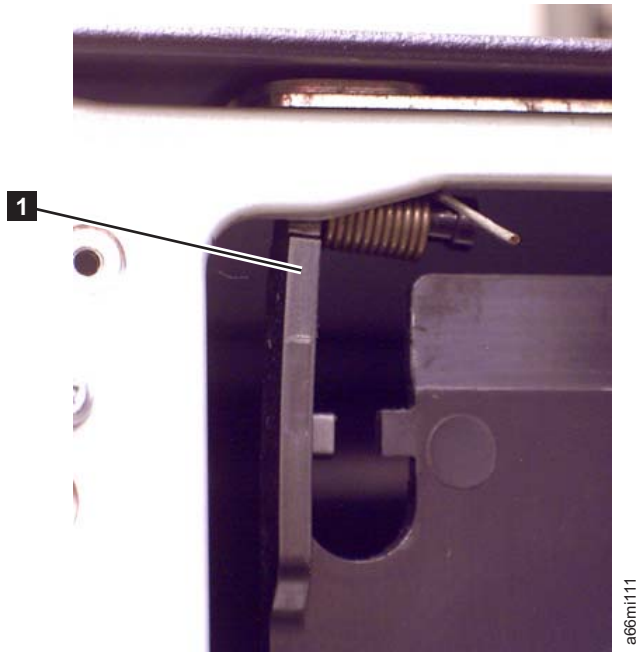

Figure 8-27. I/O Safety Flap Pivot Pin, Removed
4. Move the flap to the right to remove the pivot pin (**1** in Figure 8-27) from the pivot hole (**1** in Figure 8-27). The flap can now be removed from the library.